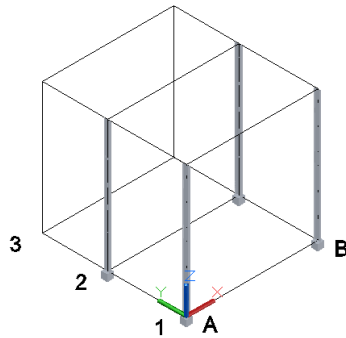

Figure 3-40 Model after adding columns
3. Choose the **Member** tool from the **Parts** panel and then place columns on all footings, as shown in Figure 3-40. Use grid points for the precise placement of columns.